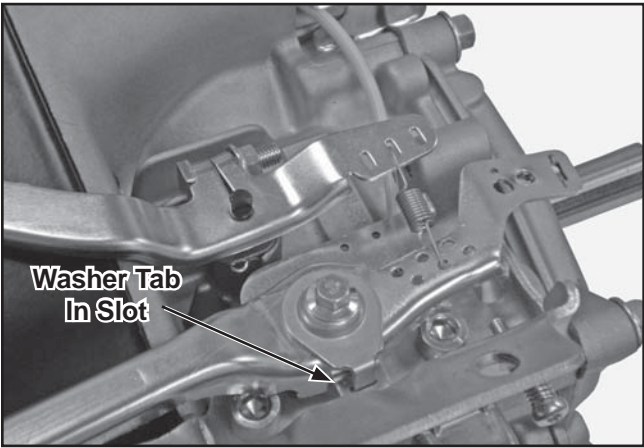

Figure 11-79. Throttle Lever Hardware.
5. Install a nylon washer, wave spring, and tabbed washer (with tab engaged in slot) on the stud above the throttle lever and secure with a hex flange nut. Torque the hex flange nut to **9 N·m (80 in. lb.)**. See Figure 11-79.